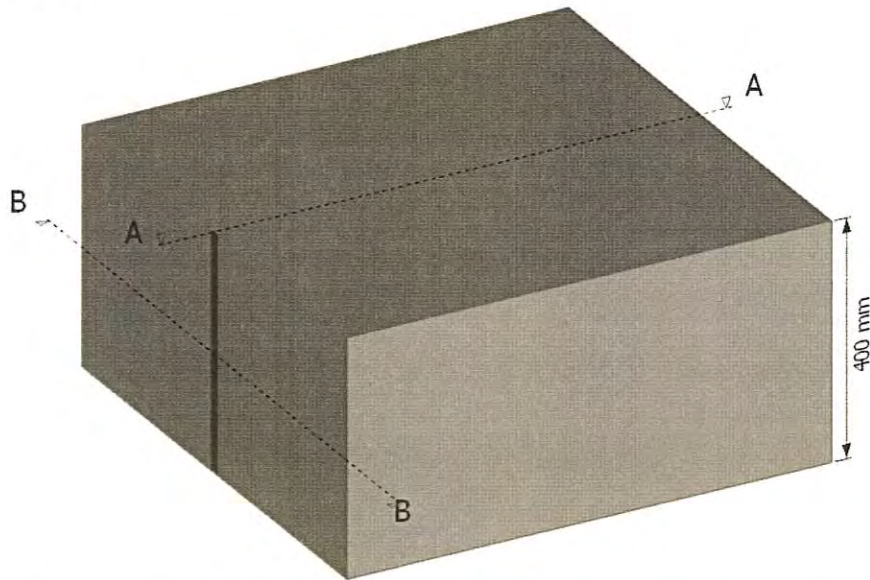

Figure 1. "Alucopanel A2®" 4 mm thick Aluminium Composite Panel Exterior Roof Covering
- D.5. The assembly shall not include any horizontal joints on the fire-exposed surface, and the joints shall only be placed along the vertical sides (Figure 1).